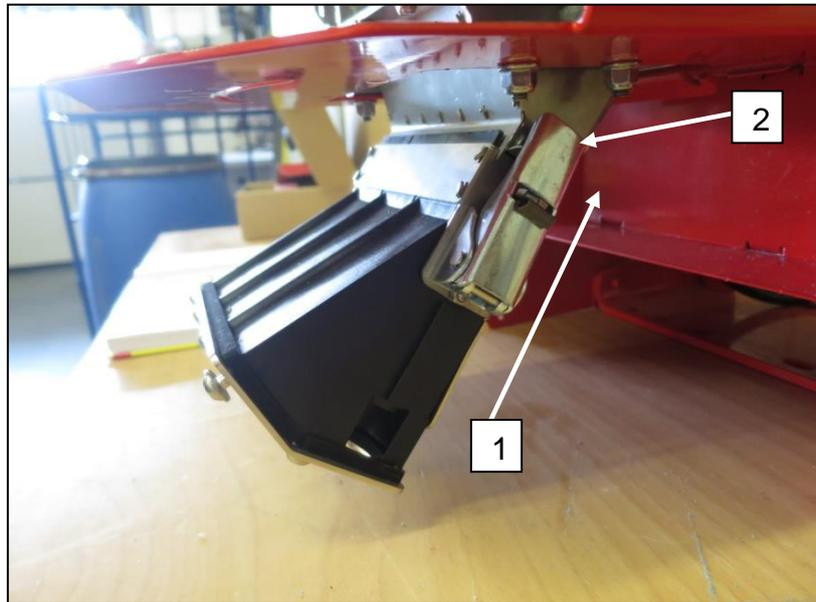

Fig.: 84
- Install the transition pieces from the bottom in the direction shown by the arrow **1** onto the air channel and fasten them on both sides with one quick-release fastener **2** each (Fig.: 84).